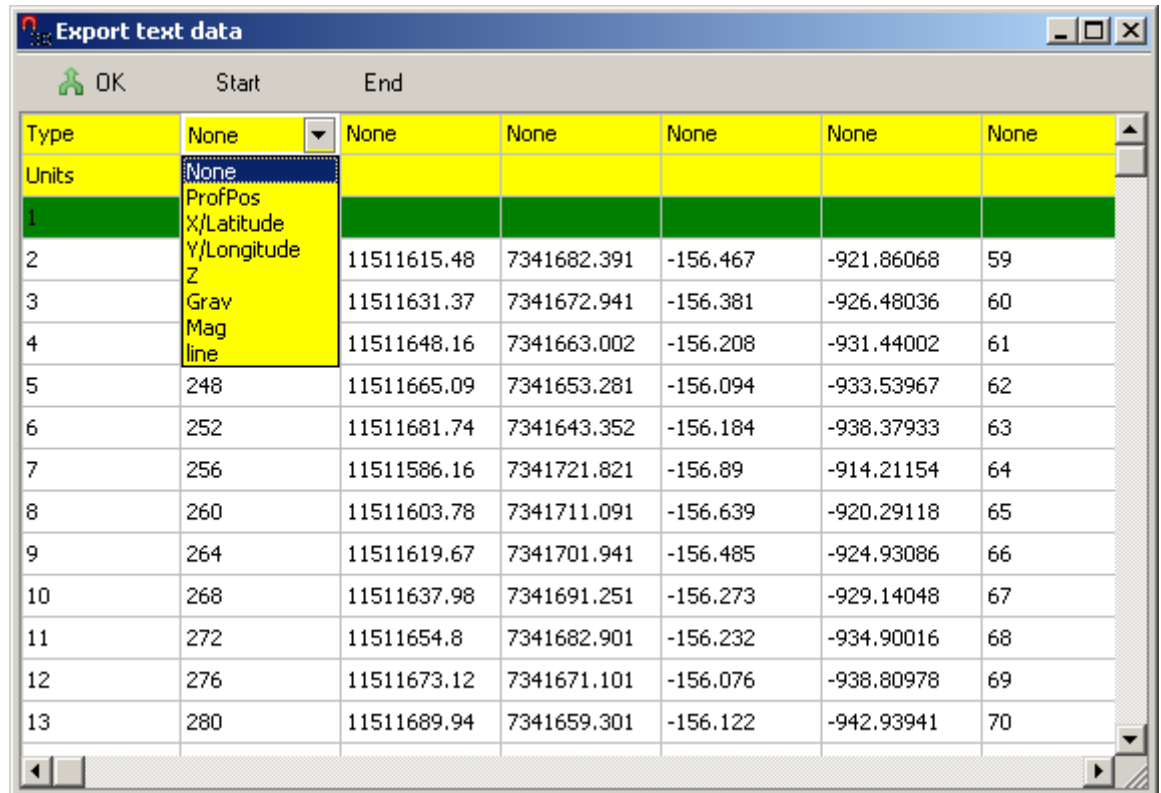

Fig.48 Import from text/excel dialog box.
There is an ability to import text files or Excel files. To do this, choose the item **File/Import from text/excel**. After selecting the file, a dialog box will appear (Fig. 48). There you can specify columns containing the following information: profile distances (ProfPos), horizontal coordinates (X/Latitude и Y/Longitude), measuring point altitude (Z), gravity (Grav) and magnetic (Mag) data, profile number (Line) in the Type string. You can also set units for